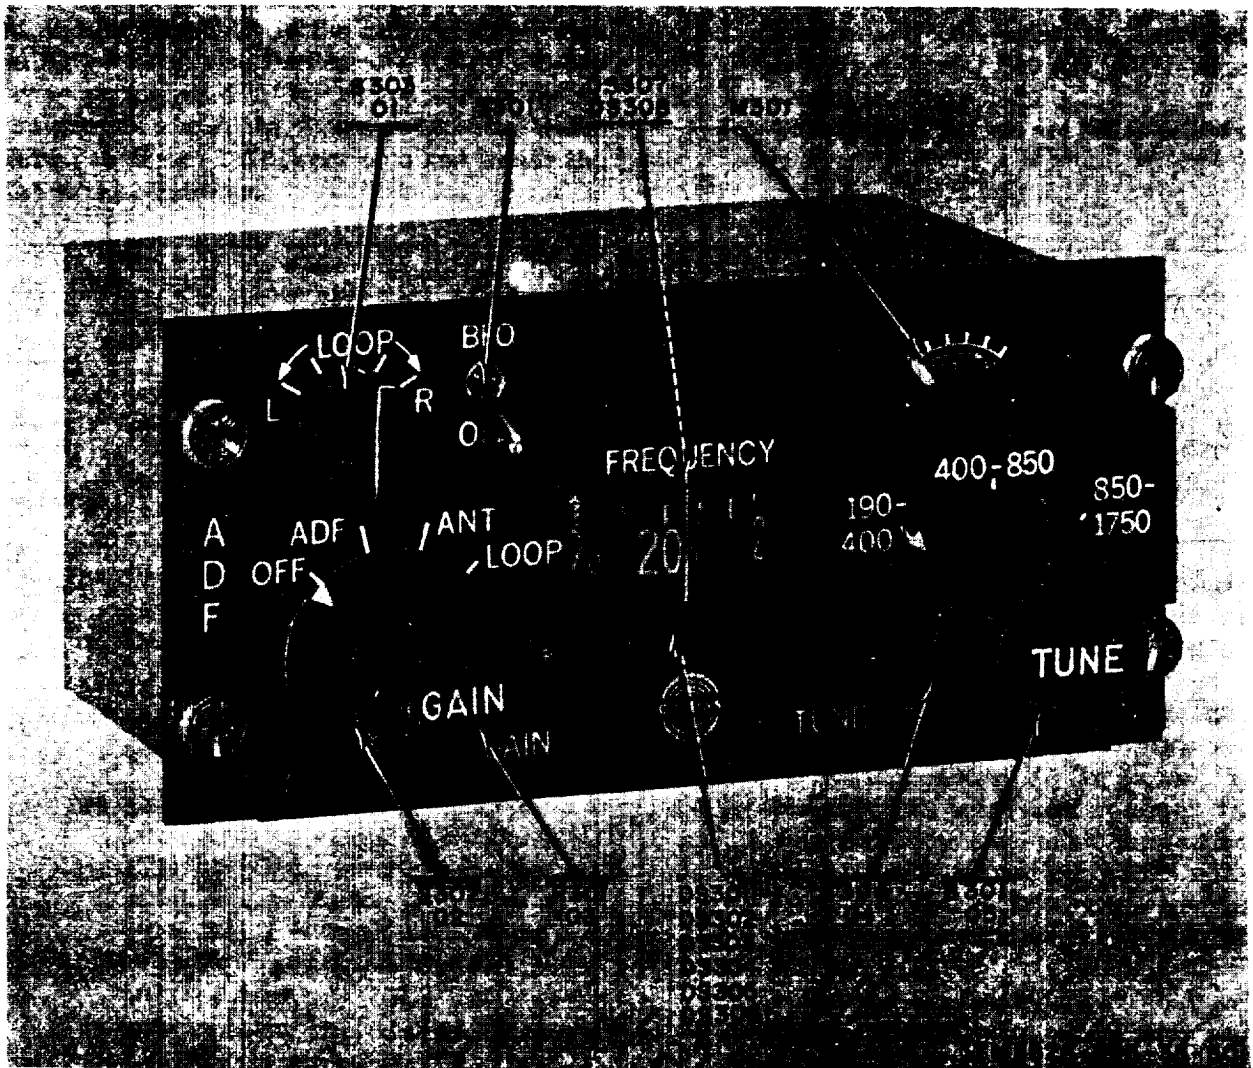

Figure 2-20. Control unit, front view.
To remove the control unit dust cover, loosen the two quarter-turn screws at the rear. For parts location, refer to figures 2-20, 2-21, and 2-22. Figure 5-11 is a schematic diagram of the control unit.
a. *Tuning Meter Test.* Set test set RECEIVER-CONTROL switch to CONTROL and CONTROL TEST switch to position 1. Set DC POWER switch to ON. The tuning meter on the control unit under test should indicate half scale and the panel and dials should be illuminated. If the tuning meter indicates otherwise or is inoperative, tuning meter M301 (fig. 2-20) is defective.
(1) Set control unit function switch to the ADF mode.
(2) Set control unit range switch to the 850-1750 position, Tune control unit to 850 kc. The test set BEARING INDICATOR pointer should indicate 343 ± 1 degree.
(3) Tune control unit until the FREQUENCY dial hairline bisects the small zero between 1,400 and 1,500 kc, The test set BEARING INDICATOR should indicate 239 ± 1 degree,
(4) Tune control unit to 1700 kc. The BEARING INDICATOR should indicate 203 ± 2 degrees.
(5) If the BEARING INDICATOR pointer indication does agree with the normal indications obtained in the above tests, either tuning synchro B301 is